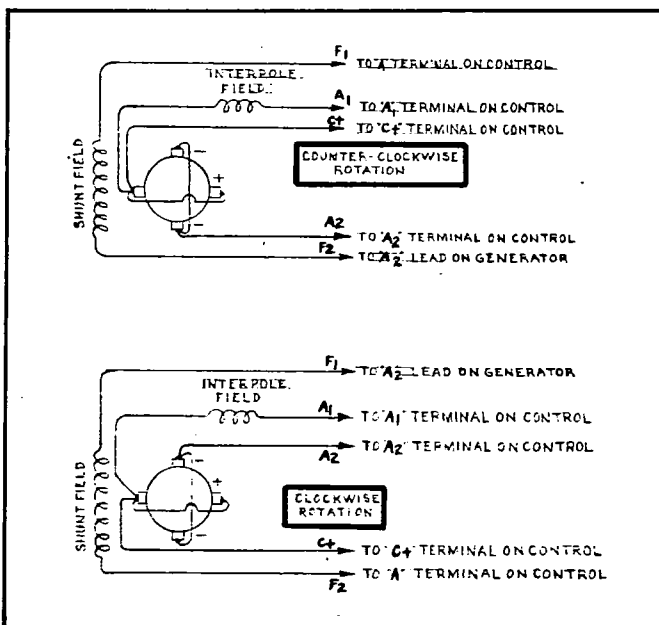

FIGURE 6. WIRING CONNECTION
1. Connect wires to control as shown for clockwise rotation in Figure 6.